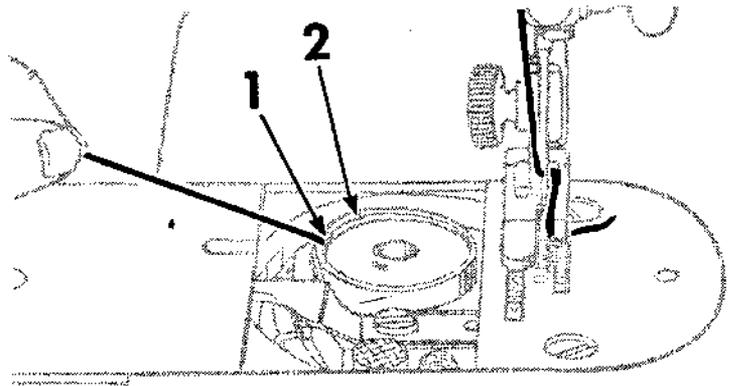

FIG. 24.
- Place bobbin in case and draw thread into slot 1, Fig. 24.